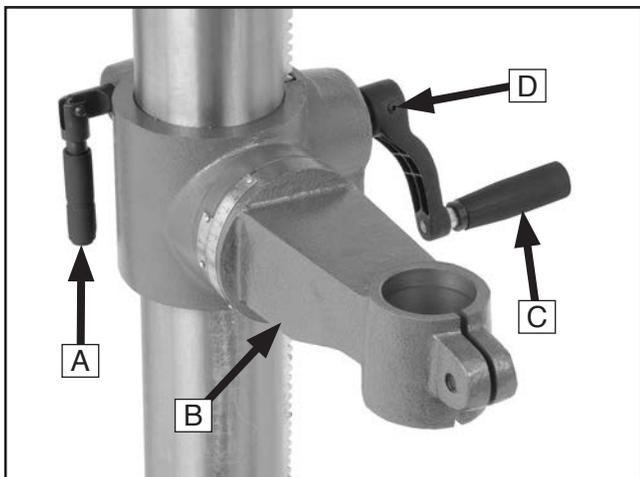

Figure 13. Example of table height controls installed.
6. Thread the table height lock handle (see **A** in **Figure 13**) into the table bracket (see **B** in **Figure 13**).
7. Slide the table height crank (see **C** in **Figure 13**) onto the table bracket shaft.
8. Turn the crank until the set screw (see **D** in **Figure 13**) is aligned with the flat section on the shaft, then tighten the set screw.